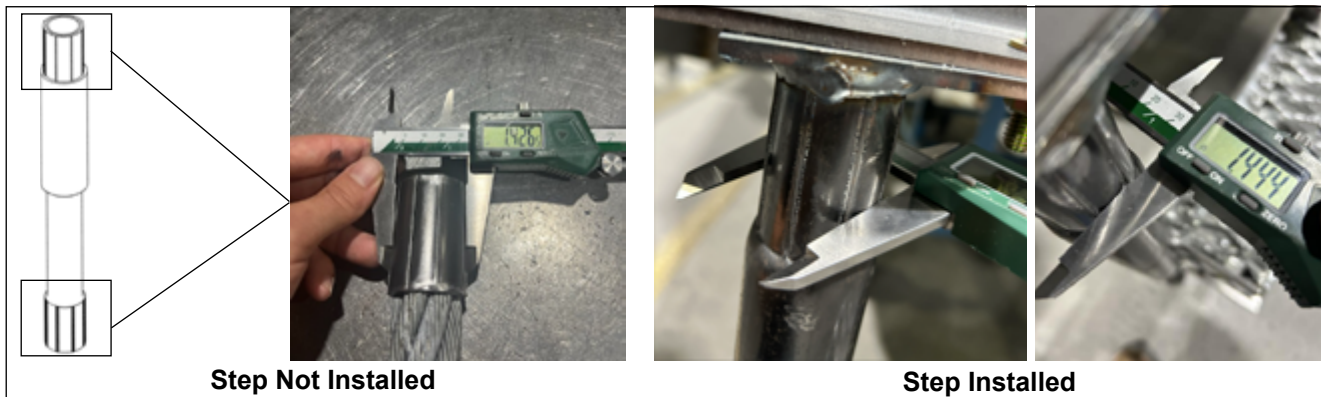

Figure 6 — Measuring the Crimp Diameter with Calipers
4. Measure the crimp diameters on the step cable (refer to Figures 6 and 7). Each step will have at least 2 cables with 2 crimped ends. If both crimps are not accessible on the same cable, only inspect the accessible crimp. Clean the cables of any dirt or debris that may interfere with the measurements.
- a. Use calipers or the provided gauge to measure the crimp diameter on the top and bottom of the right cable as shown in Figures 6 or 7. Make sure that the caliper or gauge is positioned on the flat portion of the cable and not positioned on the ridges as this will be an incorrect measurement.